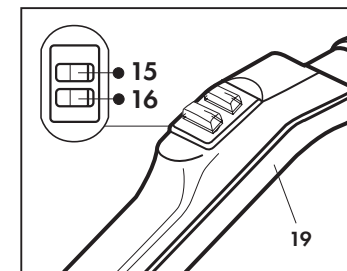
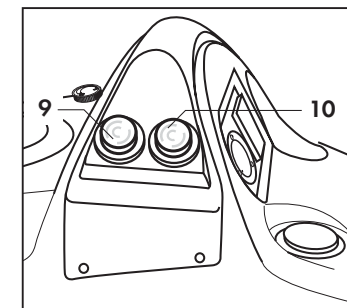

Fig. 13
Fig. 14
Press the vacuum control button (15) on the work hose to activate or deactivate the blowing function. Holding down the button will increase or decrease suction power (Fig. 13).
To stop the appliance, turn the steam and suction control switches on the handle (19) to the off position (Fig. 13); move the switches on the appliance to the off position (Fig. 14) and disconnect the plug from the socket.